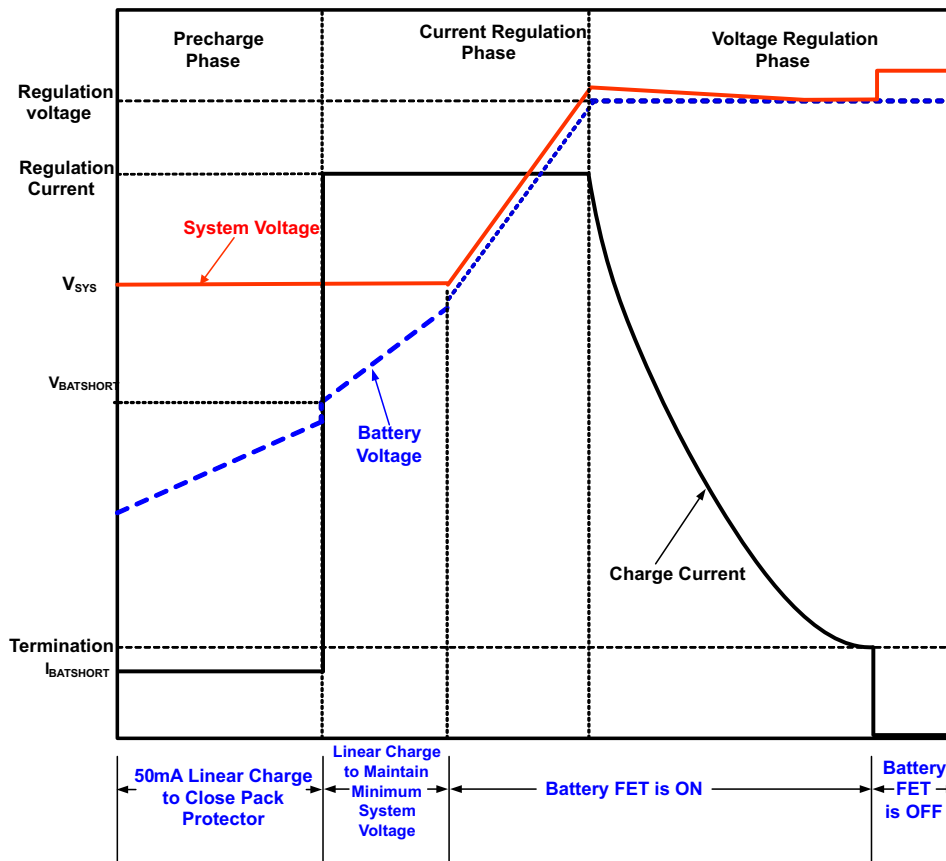

Figure 2. Typical Charging Profile of bq24278
Circuit of Figure 2, $V_{UVLO} < V_{IN} < V_{OVP}$ AND $V_{IN} > V_{BAT} + V_{SLP}$, $T_J = 0^{\circ}\text{C} - 125^{\circ}\text{C}$ and $T_J = 25^{\circ}\text{C}$ for typical values (unless otherwise noted)
Charging is done through the internal battery MOSFET. When the battery voltage is above 3.5V, the system output (SYS) is connected to the battery to maximize the charging efficiency. There are 5 loops that influence the charge current; constant current loop (CC), constant voltage loop (CV), thermal regulation loop, minimum system voltage loop (MINSYS) and input voltage dynamic power management loop (V_{IN-DPM}). During the charging process, all five loops are enabled and the dominant one takes control. The bq24278 supports a precision Li-Ion or Li-Polymer charging system for single-cell applications. The minimum system output feature regulates the system voltage to a minimum of $V_{SYS(REG)}$, so that startup is enabled even for a missing or deeply discharged battery. Figure 2 shows a typical charge profile including the minimum system output voltage feature.
The charge current is regulated to I_{CHARGE} until the battery is charged to the regulation voltage. Once the battery voltage is close to the regulation voltage, $V_{BAT(REG)}$, the charge current is tapered down as shown in Figure 2 while the SYS output remains connected to the battery. The voltage regulation feedback occurs by monitoring the battery-pack voltage between the BAT and PGND pins.